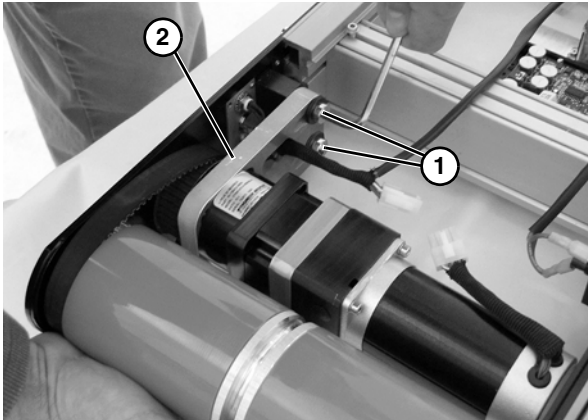

Figure 62
6. Remove two hex head screws (**Figure 62, item 1**) and washers securing drive motor plate (**Figure 62, item 2**) to conveyor.